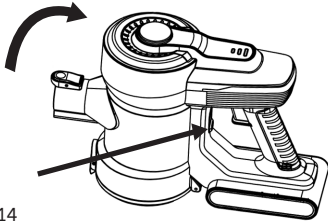
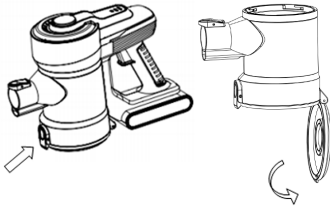

Fig.14
Fig.15
- Press the Dust Cup Release Button to disconnect it from the dust tank and rotate the tank clockwise until the arrow ↓ is aligned to the symbol ▣ and extract it (Fig.14). Then press the lower Dust Cup Cover Release Button to release the dust cup lower cover. To empty the dust tank. (Fig.15)